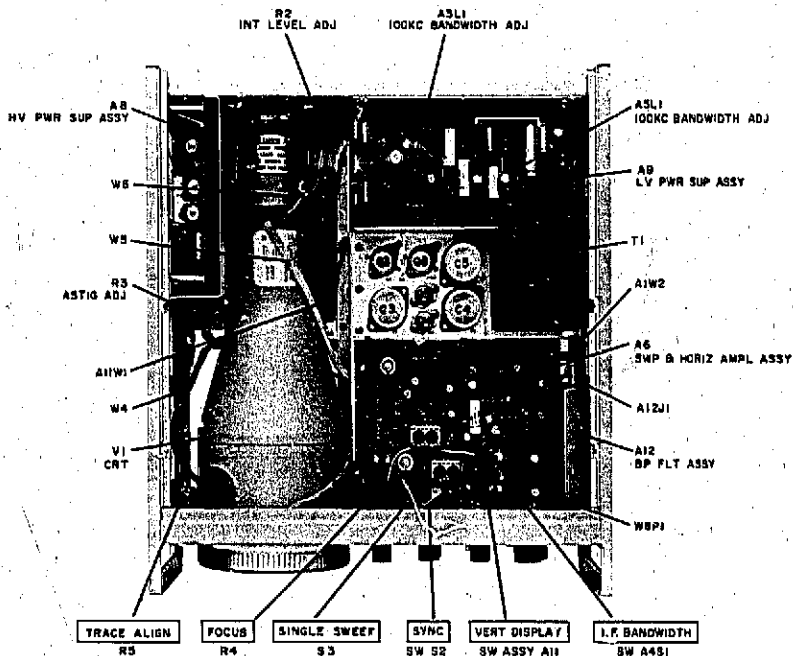

Figure 5-15. 851B Top View, Cover Removed
a. If a component is mounted on an assembly board, the designation is prefixed with the assembly number, e.g., A1R5. Location of each assembly is called out in Figures 5-15 and 5-16. In addition, a picture of each assembly board is provided near the schematics and all components on the board are identified. Board pictures face the schematic in which the assembly appears. All board pictures are listed in the List of Illustrations.